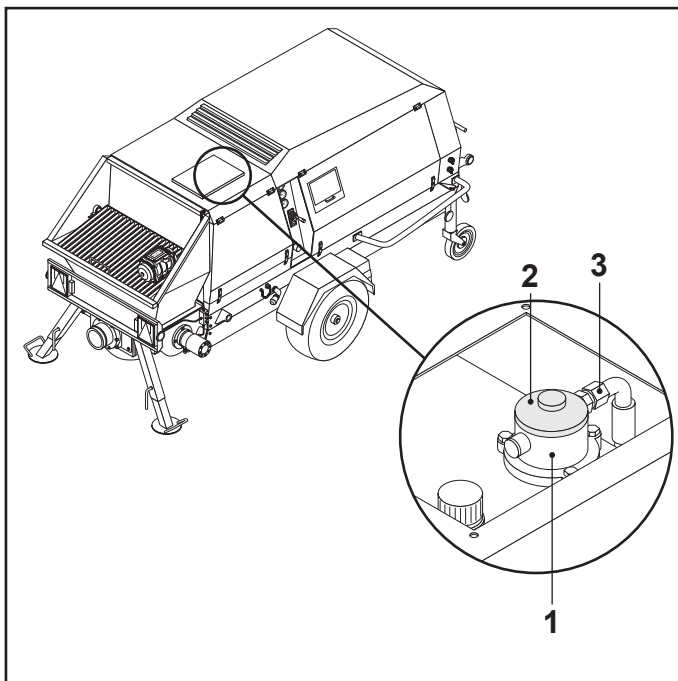

FIG. 79
- To change the filter (FIG. 79-REF. 1) unscrew the four screws on the oil filter inspection cover on the fixed casing.
- Unscrew the filter cap (FIG. 79-REF. 2) and remove and replace the filter cartridge.
- Screw the cap back on (FIG. 79-REF. 2) and fasten the inspection cover with the screws.
- Disconnect the hydraulic oil pipe (FIG. 79-REF. 3).